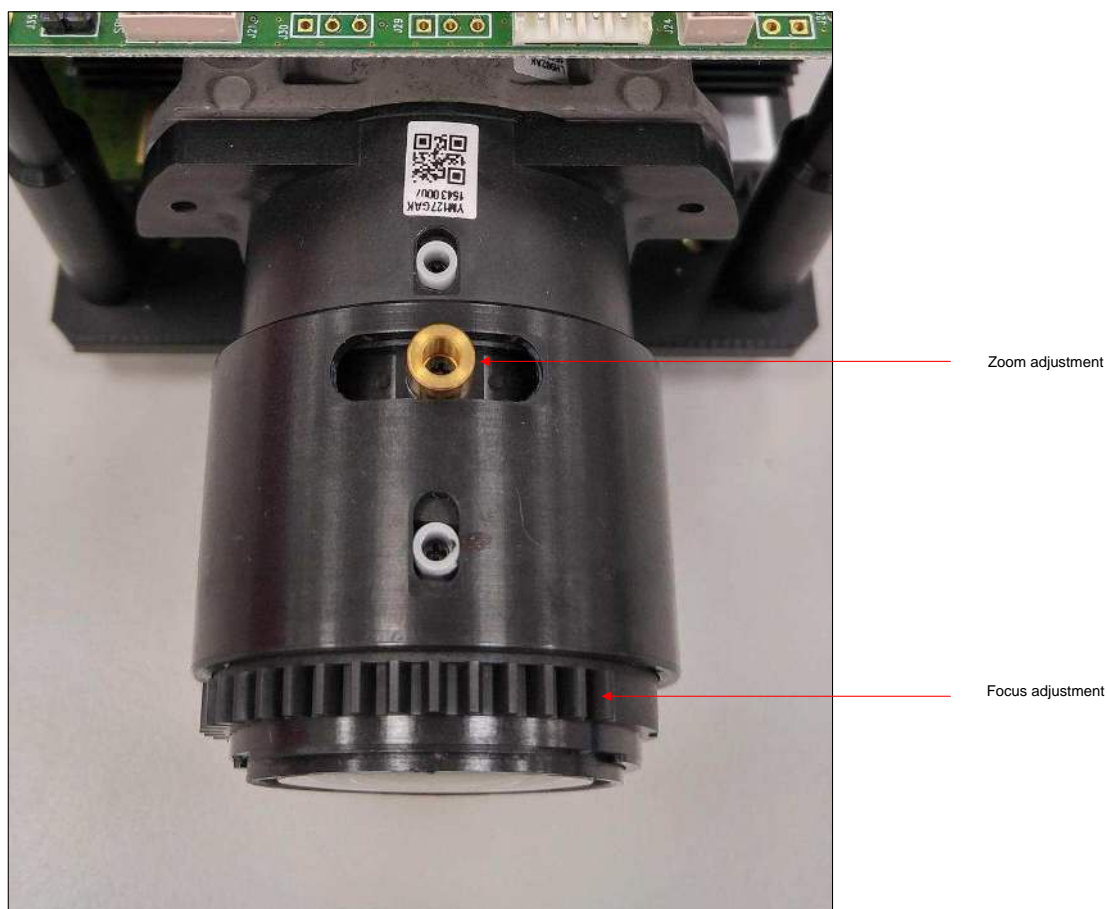

Figure 3. Optical Engine With Focus and Zoom Adjustment
5. The focus and zoom of the image can be adjusted on the optical engine (Figure 3).